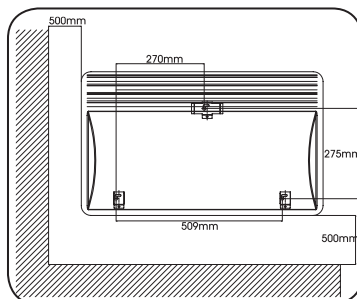

Fig. 1
CAUTION: Before mounting the heater to the wall please ensure that all three attachment points are secure in either timber or concrete. Do NOT secure directly into plaster. Please contact a tradesman if you are unsure. Please see the Fig. 1 which illustrates the points of contact. Ensure that the heater is at least 500mm from the floor and corners of the wall.
2. As a general safety guide select a suitable location to wall mount the heater, approximately 500mm from any furniture either side of the unit and 500mm from any furniture placed in front of the heater. The heater must be mounted horizontally as per Fig. 1.